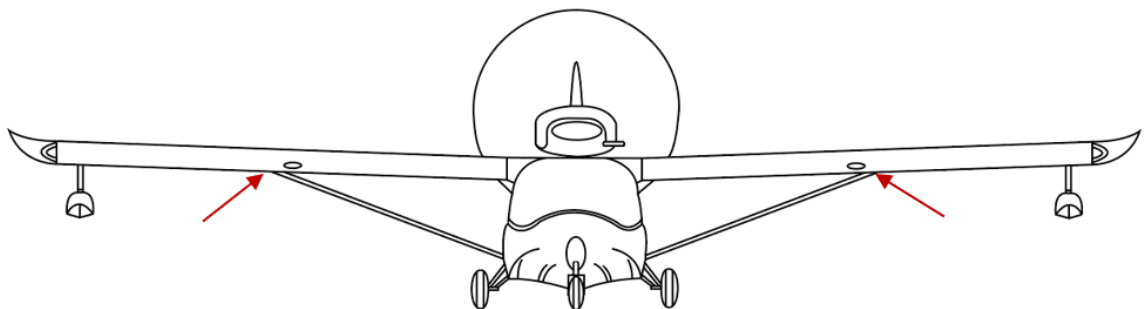

Figure 1
- 1- With the aircraft wings open and supported (second person or jack), use the 1/2 in spanner, remove the nut AN364-524 from the upper terminal of the strut (identified in the figure 1).